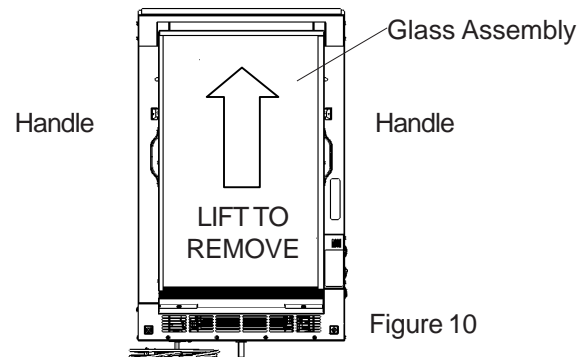

Figure 10
3. Remove glass assembly. Remove the screws securing the glass assembly on the chassis. Hold on to the handles on the glass assembly with both hands then lift the whole assembly straight up to remove. Figure 10.